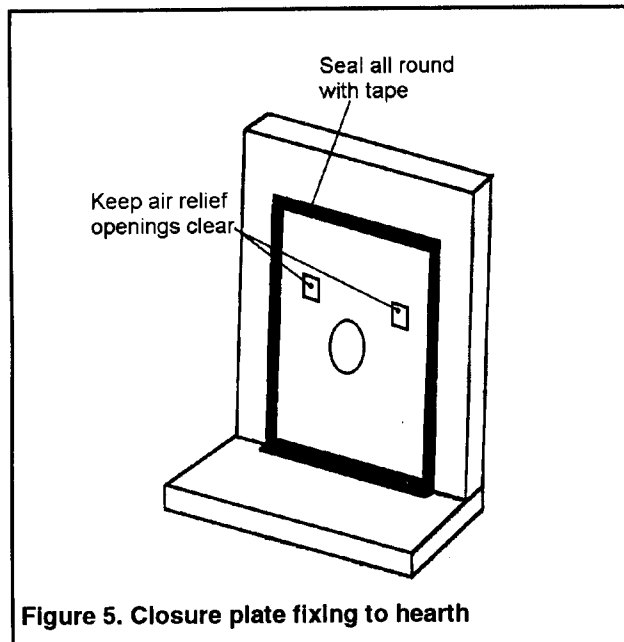

Figure 5. Closure plate fixing to hearth
3.4.2. Hearth mounting (figure 5)